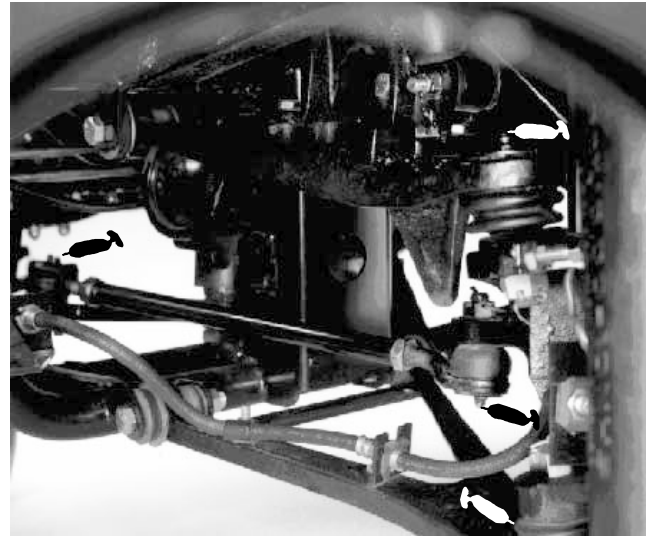

Figure 1
- A. **Two** on each tie rod end and **two** on each front ball joint (Fig. 1).